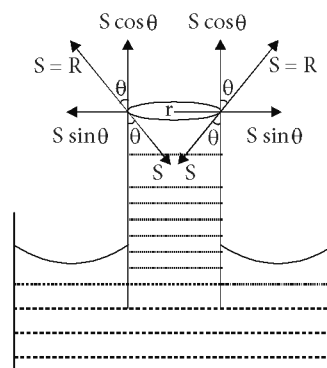

Fig. 5.25
- Ascent formula: Let a capillary tube of radius r is dipped in a liquid of surface tension S and the liquid rises by height h , as shown in (Fig. 5.25) then,